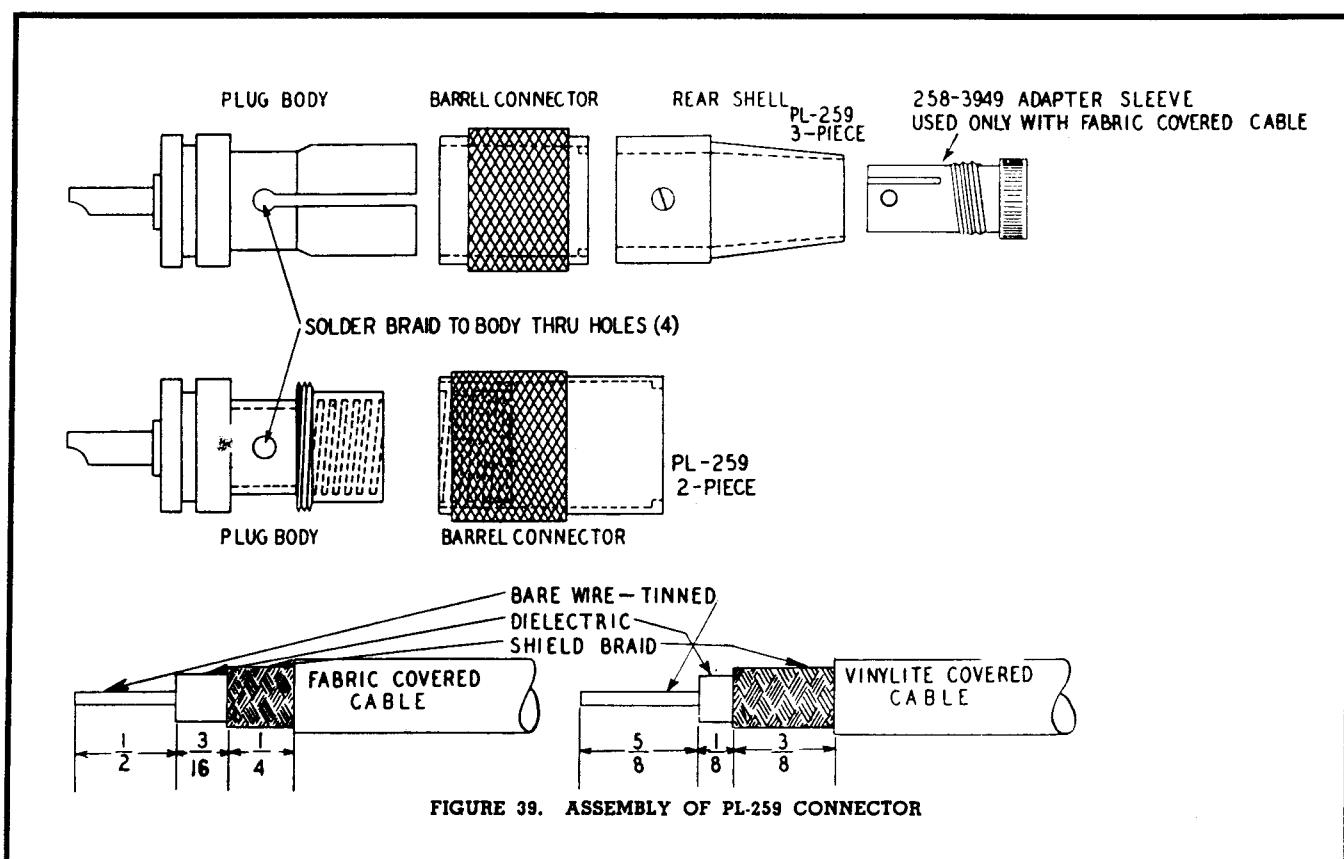

FIGURE 39. ASSEMBLY OF PL-259 CONNECTOR
- (1) After preparing cable as in figure 39, assemble connector parts on cable in order shown in drawing. (The coaxial cable will usually have to be screwed into plug body, as the plug body is threaded inside, to take a firm grip on the outer cover of the cable. If fabric-covered cable is used, the adapter sleeve must be used because of the smaller diameter cable.)